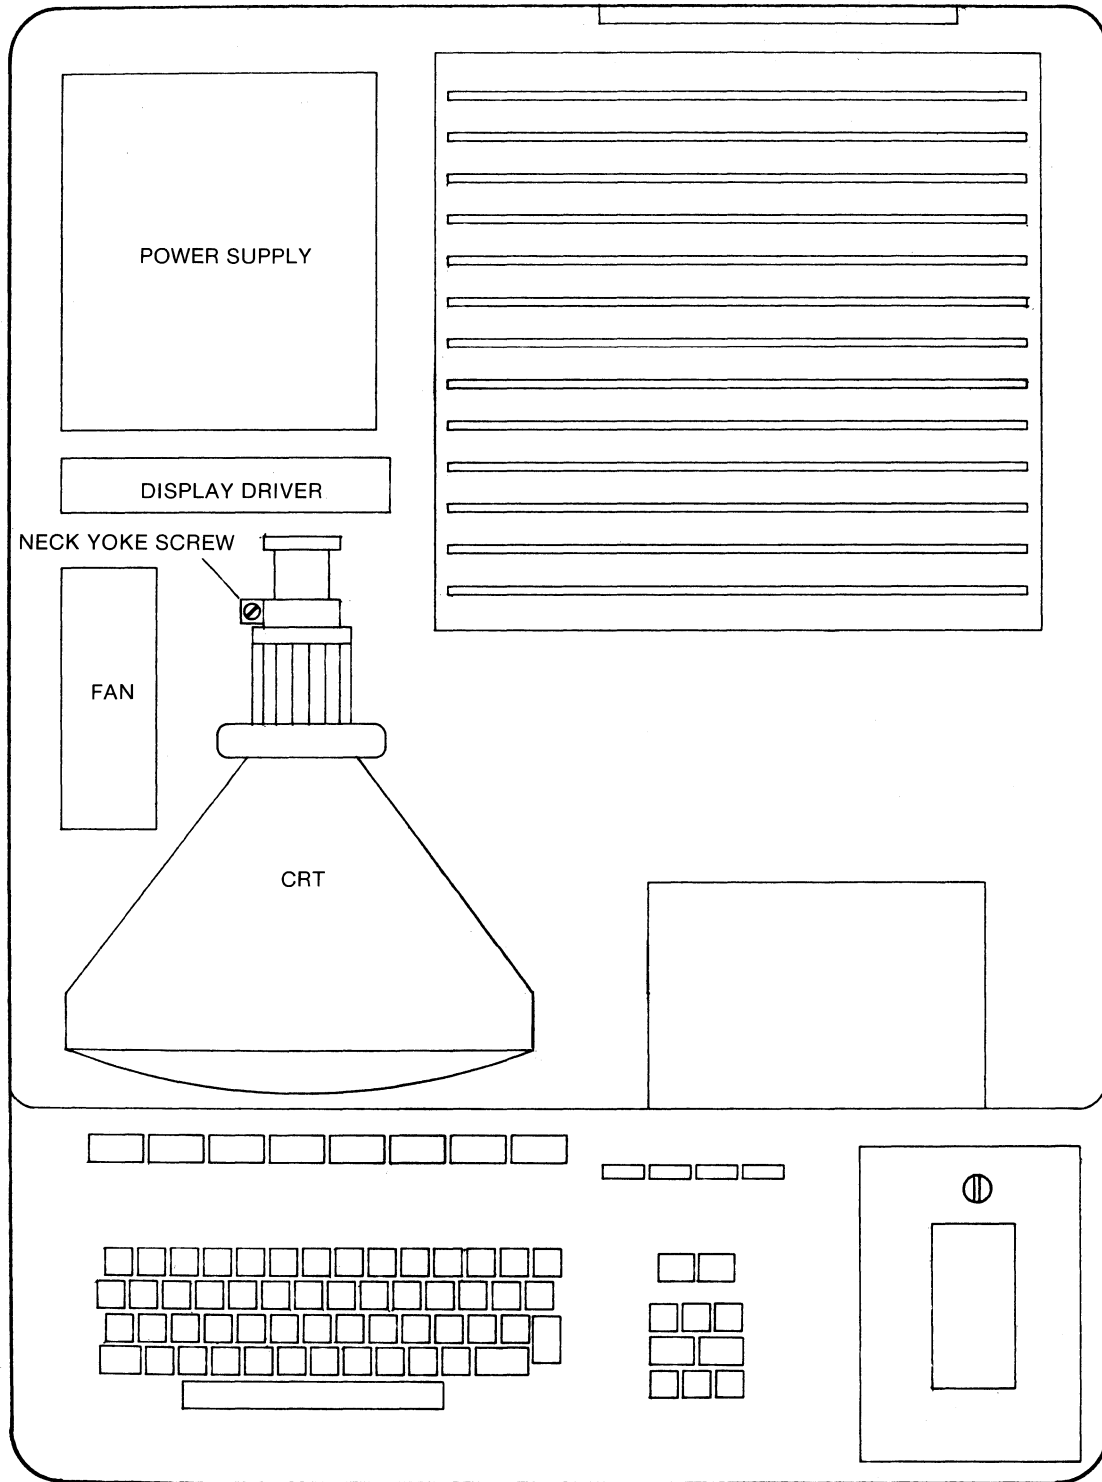

Figure 5-3. Location of Yoke Neck Screw
- h. If the display is not level, loosen the yoke neck screw, rotate until the display is level, then retighten yoke neck screw (see figure 5-3).